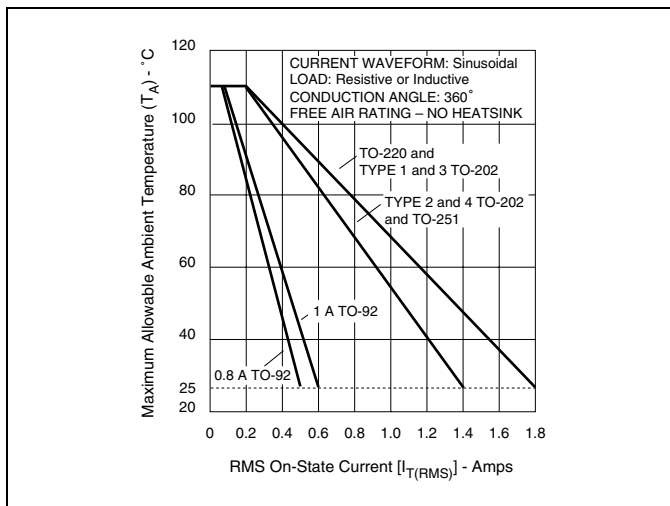

Figure E1.1 Maximum Allowable Ambient Temperature versus On-state Current
- (11) See Figure E1.1, Figure E1.2, and Figure E1.3 for T_A or T_C versus $I_{T(RMS)}$.
- (12) See package outlines for lead form configurations. When ordering special lead forming, add type number as suffix to part number.
- (13) Pulse width $\leq 10\text{ }\mu\text{s}$
- (14) T_C or $T_L = T_J$ for test conditions in off state
- (15) Minimum non-trigger V_{GT} at $110\text{ }^\circ\text{C}$ is 0.2 V.